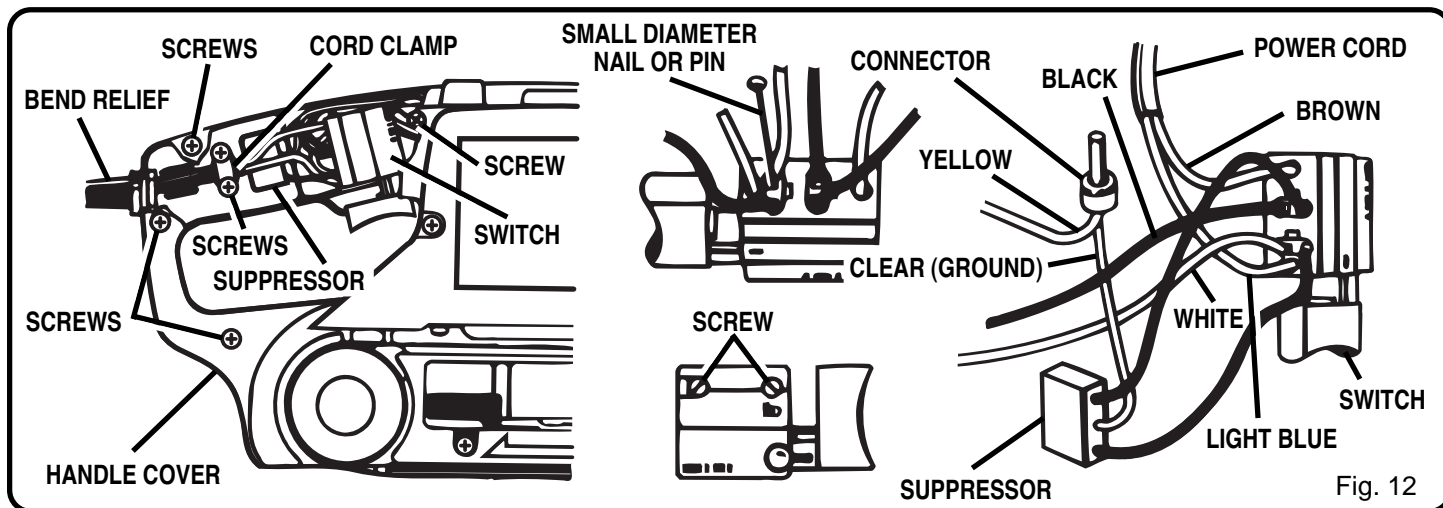

Fig. 12
1. Remove the handle cover and screws. **NOTE THE LOCATIONS OF ALL WIRING IN THE HANDLE AND HOW EACH CONNECTION IS MADE TO THE SWITCH.** Connections and wiring position must be identical when installing the new switch. *See Figure 12.*
3. Release motor leads from switch by inserting a small diameter pin or nail into remaining switch lead receptacles. *See Figure 12.*
5. Position the switch in place, and arrange the wiring in the handle so that it will not be pinched or contact screws when the handle cover and screws are replaced. *See Figure 12.*
6. Arrange suppressor, connectors, and suppressor leads in the handle so that they will not be pinched or contact screws when the handle cover and screws are replaced. *See Figure 12.*
1. Remove handle cover and screws. **NOTE THE LOCATIONS OF ALL WIRING IN THE HANDLE AND HOW EACH CONNECTION IS MADE TO THE CORD.** Connections and wiring position must be identical when installing the new cord. *See Figure 12.*
6. Position the switch in place, and arrange all wiring in the handle so that it will not be pinched or contact screws when the handle cover and screws are replaced. *See Figure 12.*
7. Arrange suppressor, connectors, and suppressor leads in the handle so that they will not be pinched or contact screws when the handle cover and screws are replaced. *See Figure 12.*